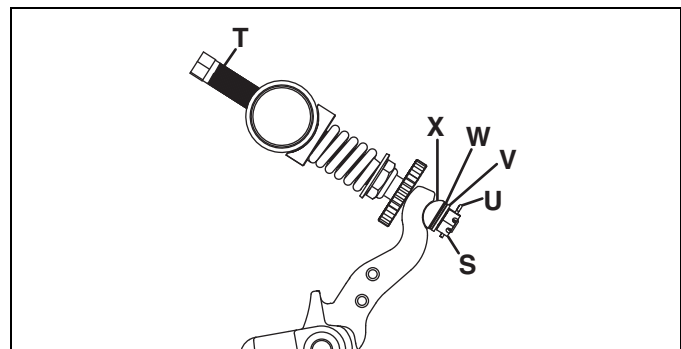

Figure 4G
1. Remove cotter pin **(U)**, slotted nut **(S)**, bellville washer **(V)**, shim washer **(W-If required)**, and half trunnion **(X)**. See Figure 4G